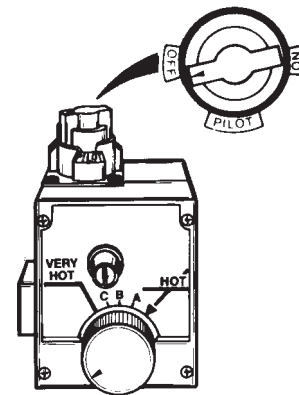
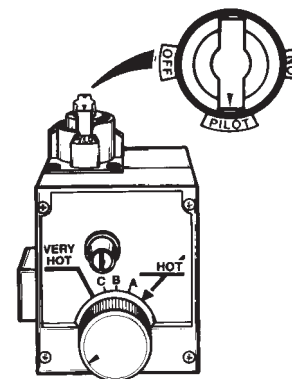

Figure 13
Figure 14
4. Turn gas control knob clockwise (↻) to "OFF" position. Knob cannot be turned from "PILOT" to "OFF" unless knob is depressed slightly. **DO NOT FORCE.** (Figure 13, page 21)
5. Wait five (5) minutes to clear out any gas. If you then smell gas, STOP! Follow "B" in the safety information above on this label. If you don't smell gas, go to the next step.
7. If you don't smell gas, turn knob on gas control counter-clockwise (↺) to "PILOT" position. (Figure 14, page 21)
8. Push in control knob all the way and hold down. Immediately light the pilot with a match held by a match holder wire. Continue to hold control knob in for about one (1) minute after the pilot is lit. Release knob and it will pop back up. Pilot should remain lit. If it goes out, repeat steps 3 through 8.
- If the pilot will not stay lit after several tries, depress and turn the gas control knob clockwise (↻) to "OFF" and call your service technician or gas supplier. (Figure 13, page 21)
2. Turn gas control knob clockwise (↻) to "OFF" position. Knob cannot be turned from "PILOT" to "OFF" unless knob is depressed slightly. **DO NOT FORCE.** (Figure 13, page 21)